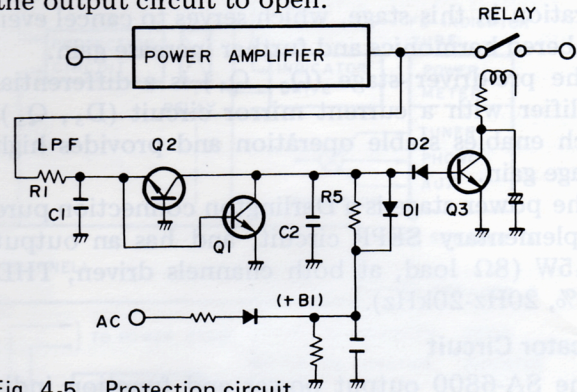

Fig. 4-5 Protection circuit
With reference to Fig. 4-5 when the power supply is turned on, if there is no input (DC) on  $Q_1$  and  $Q_2$ , they will be off, and the timing capacitor  $C_2$  charges up through  $R_5$  and thus  $Q_3$  turns on. When  $Q_3$  conducts, the relay operates, and the output muting on the power amplifier will be removed.